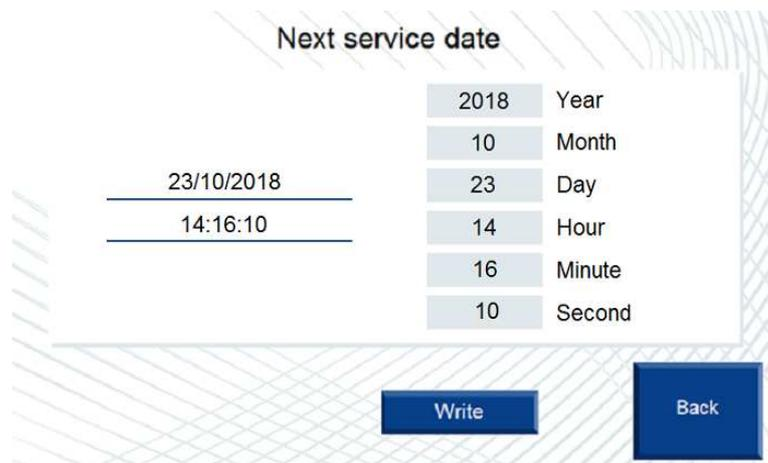

Fig. 40a
**Next** – pressing this button navigates to the next screen (Fig. 40a).